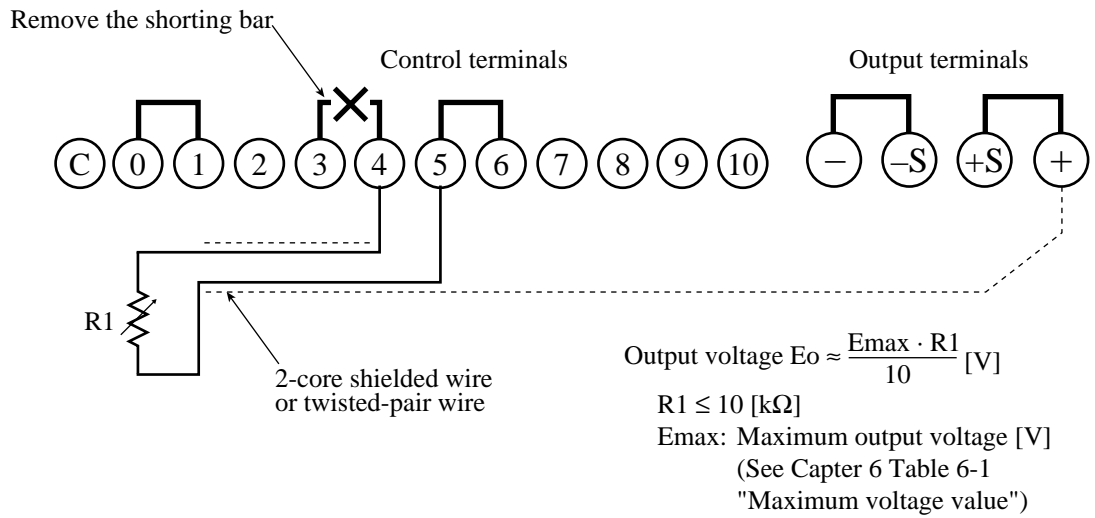

Fig. 4-3 Connections for output voltage control (I) with external resistor
2. As shown in Fig. 4-3, remove the shorting bar across the control terminals 3 and 4.
3. Connect an external resistor (R1) across the control terminals 4 and 5 as shown in Fig. 4-3.